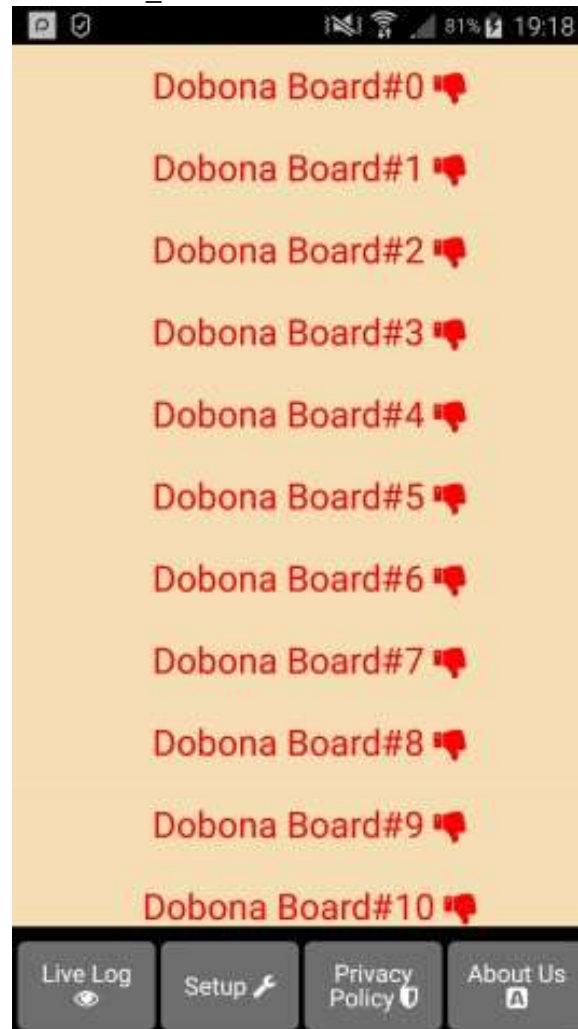

Fig 2.
5. SINCE NO BOARD HAS BEEN SETUP YET, THE USER SHOULD PRESS ON THE SETUP BUTTON ON THE BOTTOM OF THE SCREEN TO MOVE TO THE SETUP PAGE, WHICH LOOKS SIMILAR TO THE LIVE_LOG PAGE BUT WITH A BEIGE BACKGROUND (Fig.2).